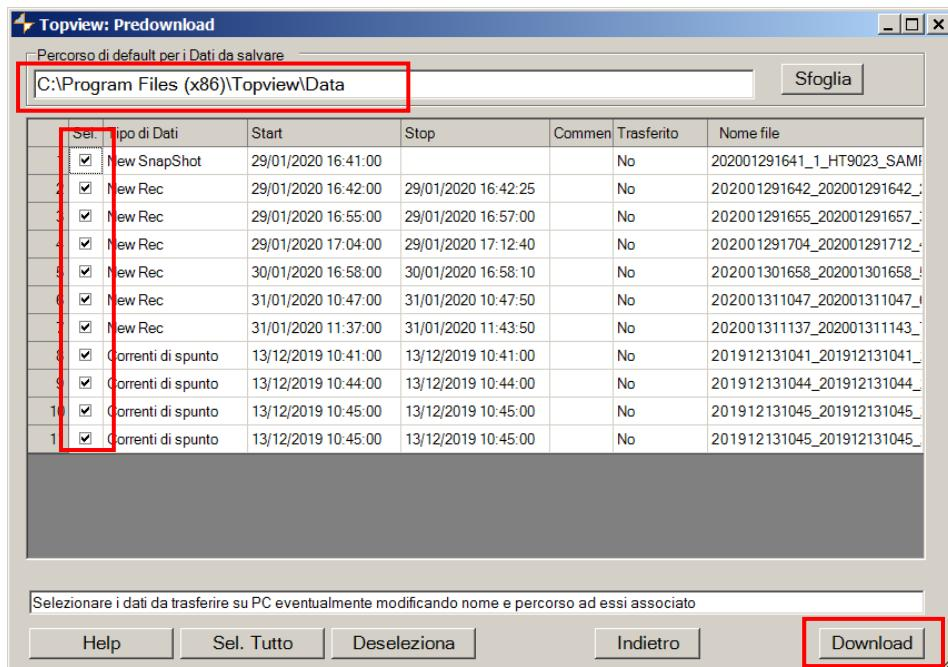

Fig. 17: Selection data for download
7. Click on the “**Next**” button to open the download window (see Fig. 17). Check the measurements you want to download, choose the path where you want to save them and click on the "Download" button to start the transfer